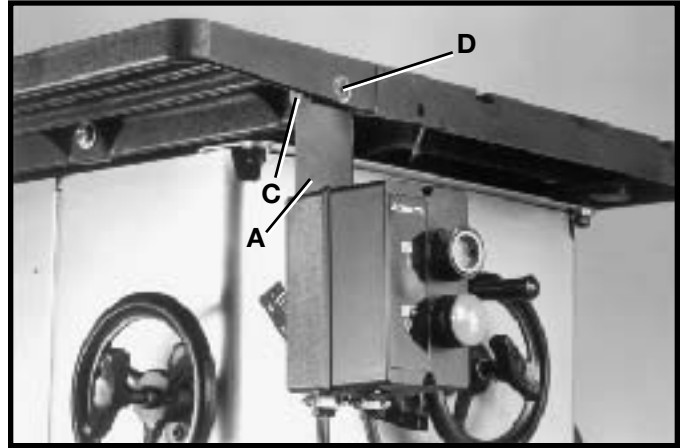

Fig. 8
5. Attach the side of switch bracket (A) Fig. 8, to the inside of extension table at the front of the saw using the 5/8 x 1-1/4 screw and flat washer (C), which were removed in **STEP 3**. Tighten screws (C) and (D).